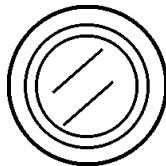

Figure 35. Main Circuit Breaker OFF Lamp
2. Verify that the **main** circuit breaker "OFF" lamp (Figure 35) is lit (**ON**).